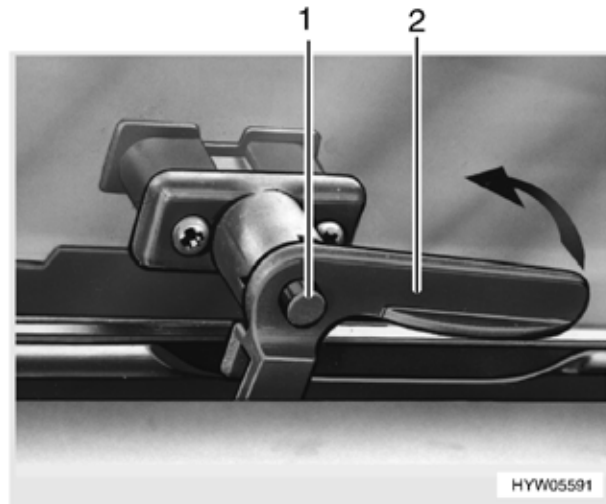

Fig. 45 Hinged window, window handle closed (variant 3)
- ▷ When operating the window handle, always press the safety knob (Fig. 45,1).
- Push the safety knob in (Fig. 45,1).
- Place window handle (Fig. 45,2) into a vertical position.
- Place the window handle (Fig. 45,2) into a horizontal position.